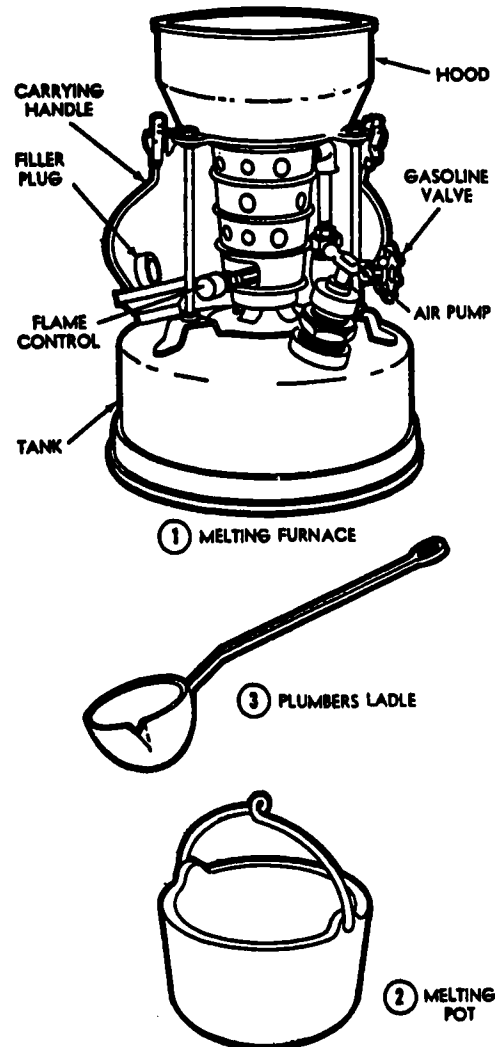

Fig 1-74. Melting furnace and accessories.
- **Melting furnace:** The melting furnace (fig 1-74) is a portable gasoline-burning furnace used to melt lead. Use caution when filling the tank with gasoline. Do not fill the tank when operating the furnace or when it is hot. You should not operate the furnace in an enclosed area.
- **Melting pot:** The melting pot (fig 1-74) is made of cast iron and is used to hold the lead while it is being heated on the hood of the furnace. Do not allow any foreign material to get into the melting pot since this could contaminate the lead. Water and hot lead do not mix. Water can cause hot lead to splatter and may cause serious injuries.
- **Plumber's ladle:** The ladle (fig 1-74) is made of cast iron and is used to dip out the molten lead from the melting pot and carry it to the joint to be poured. The ladle has a pour spout that helps direct the flow of hot lead in a thin line to the joint.